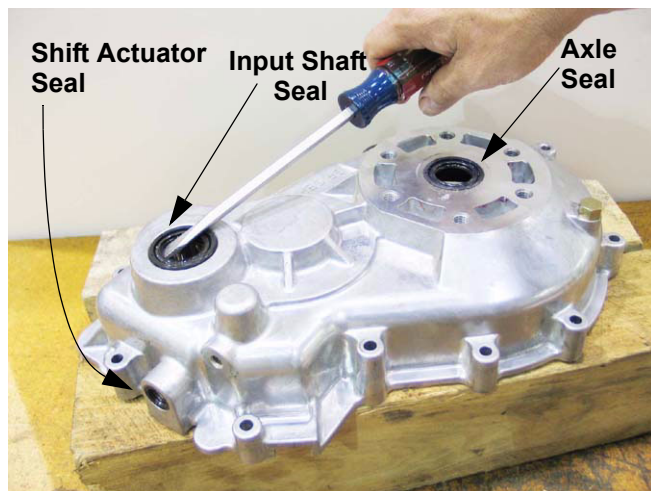

Figure 12.12
12.12. Remove the seals from the case. There are three on the left side housing: input shaft seal, axle seal, and shift actuator seal. Do not re-use the seals. See Figure 12.12.